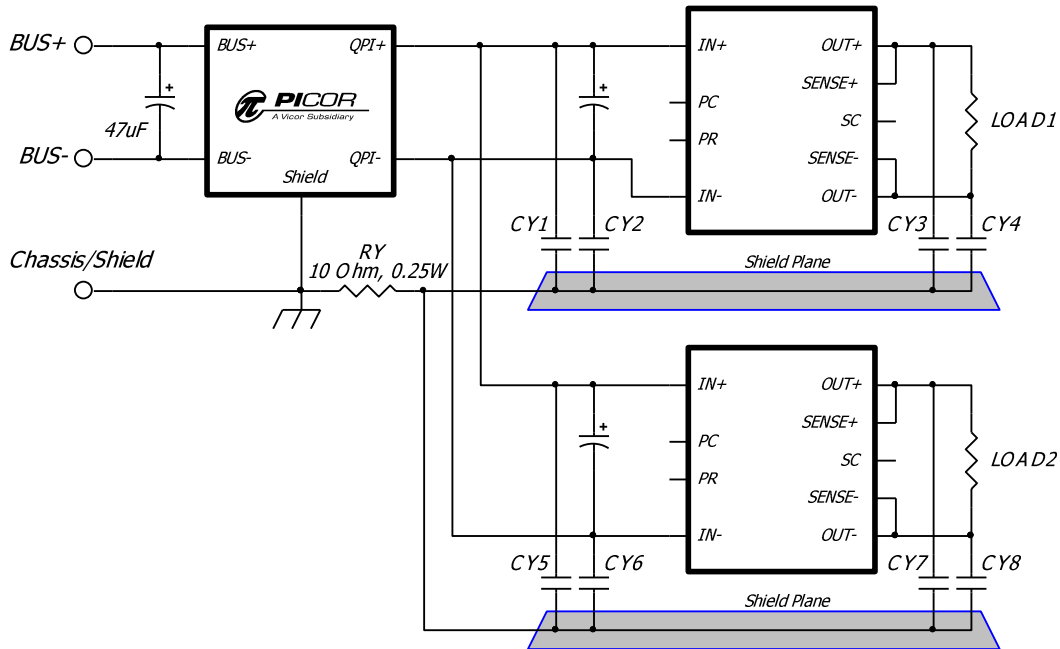

**Figure 10 - Current de-rating and power dissipation over ambient temperature range.**
- -40° to +125°C Ambient temperature (see Figure 10)
Note 2: See Figure 10 for the current de-rating curve.
The de-rating curve in Figure 10 is based on the maximum allowable internal component temperature and the 7 A maximum rating of the QPI-3. The power dissipation curve is based on the current squared multiplied by the internal